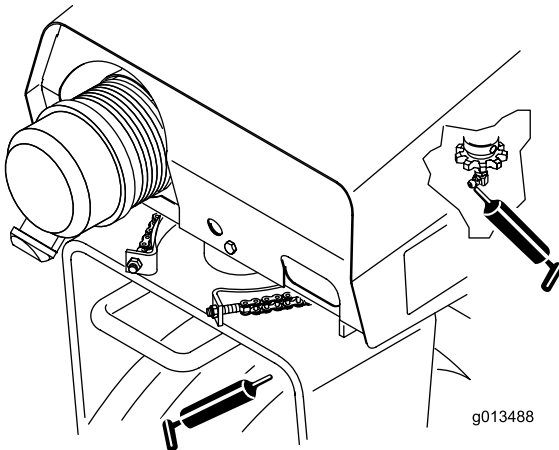

Figure 15
- Steering shaft and sprocket (Figure 15)